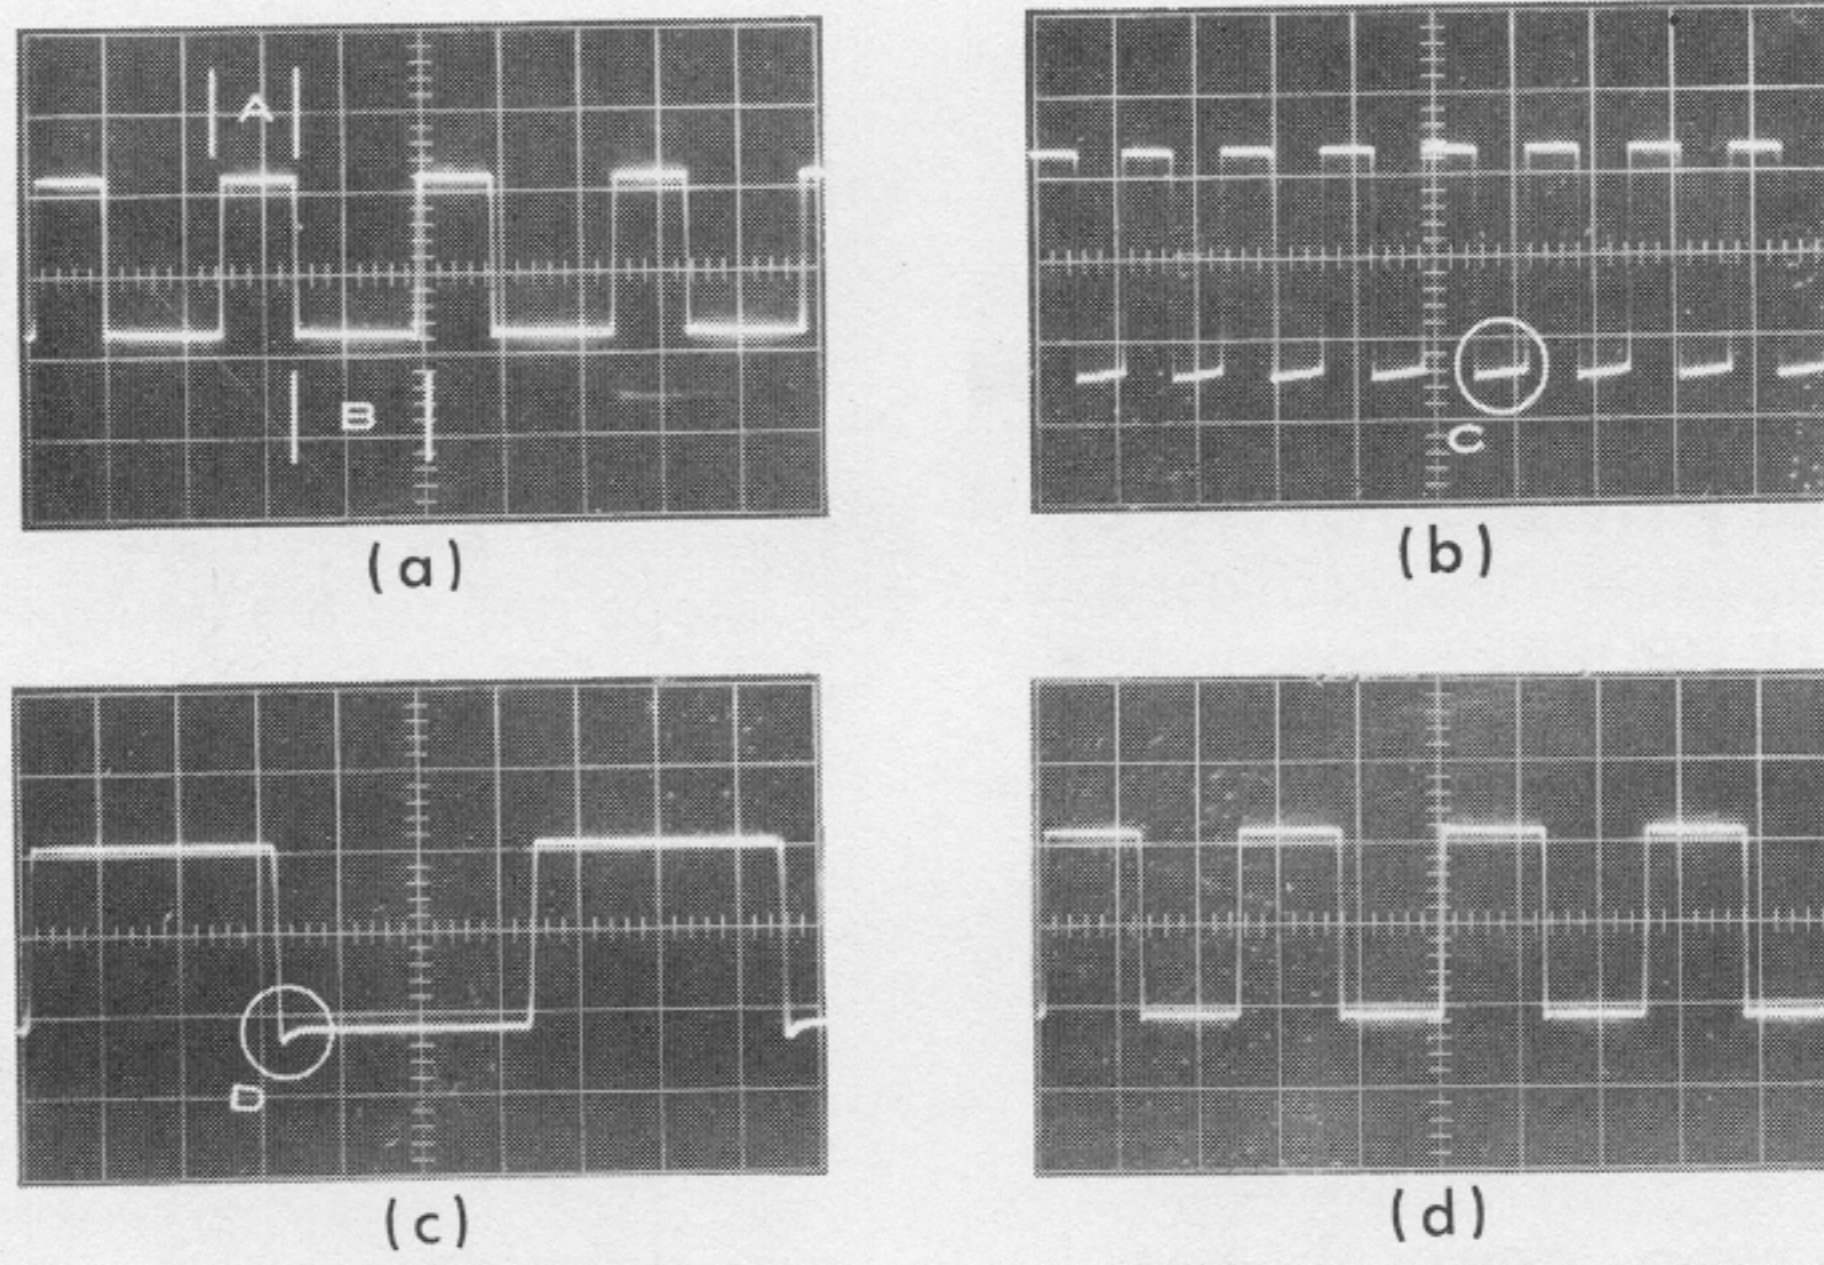

Fig. 4. Typical output waveforms.
If the output waveform of the Type 107, when displayed on an oscilloscope, appears asymmetrical as shown in Fig. 4(a), this indicates that you should readjust the **SYMMETRY** control. Whenever you change the multivibrator tube V26 you should check this adjustment by looking at the waveform on an oscilloscope.
2. Adjust the **SYMMETRY** control of the Type 107 so that the horizontal length of the positive portion of the displayed waveform (region A in Fig. 4(a)) is equal to the horizontal length of the negative portion (region B in Fig. 4(a)). Fig. 4(d) shows the output waveform obtained when the **SYMMETRY** control is correctly adjusted.
If the negative portion of the output waveform of the Type 107, when displayed on an oscilloscope, has a tilted appearance as shown in Fig. 4(b), this indicates that you should readjust the low-frequency compensation control R89.
2. Adjust the **LOW-FREQ. COMP.** control so that the negative portion of the square-wave display (region C in Fig. 4(b)) is level. The output waveform of a correctly compensated instrument is shown in Fig. 4(d).
wrinkle, this indicates that you should readjust C88. Fig. 4(c) shows a waveform having excessive negative overshoot. To adjust C88, proceed as follows:
2. Adjust C88 for minimum overshoot and wrinkle on the negative portion of the output waveform of the Type 107 (region D in Fig. 4(c)). Fig. 4(d) shows the waveform of the Type 107 adjusted for optimum high-frequency response.